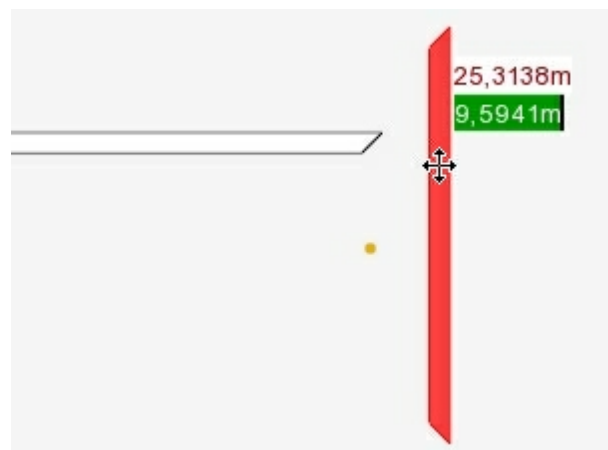

Figure 1
2. **Move the wall** into the desired direction. **Figure 1** shows how the mouse pointer changed into a cross indicating the moving operation. The displayed values express the vertical and horizontal distance between the reference point and the current mouse position.